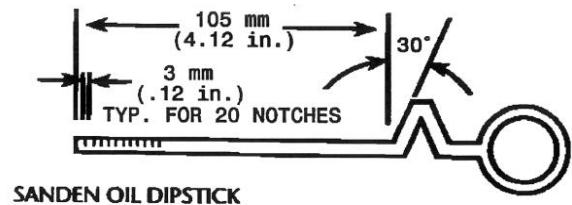

Figure 2
- c) Make or obtain a compressor oil dipstick like the one shown in Figure 2. Insert the dipstick up to the stop, with the stop angle pointing to the top of the compressor as shown.